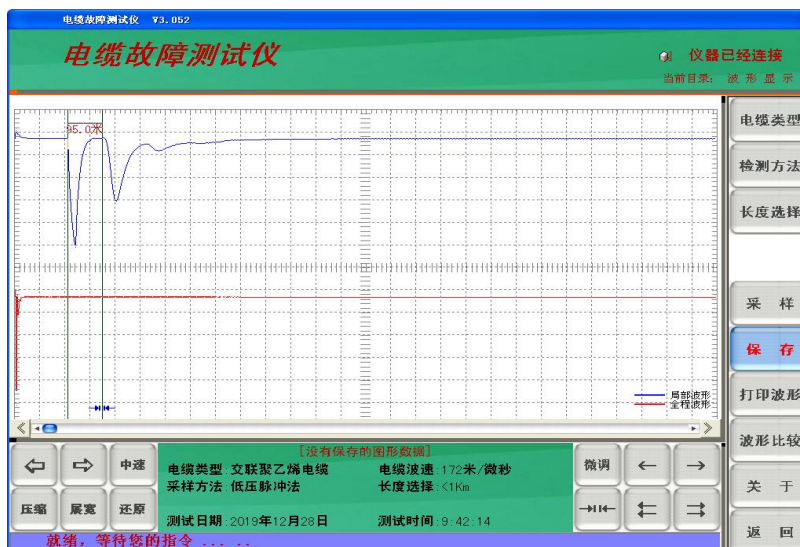

Fig 7-1
(3) Wiring according to the low voltage pulse wiring diagram
(4) Click "Sample" to take the waveform
(5) Adjust "Displacement" and "Amplitude" to make the waveform more distinguishable. The standard waveform is shown in Figure 7-1.